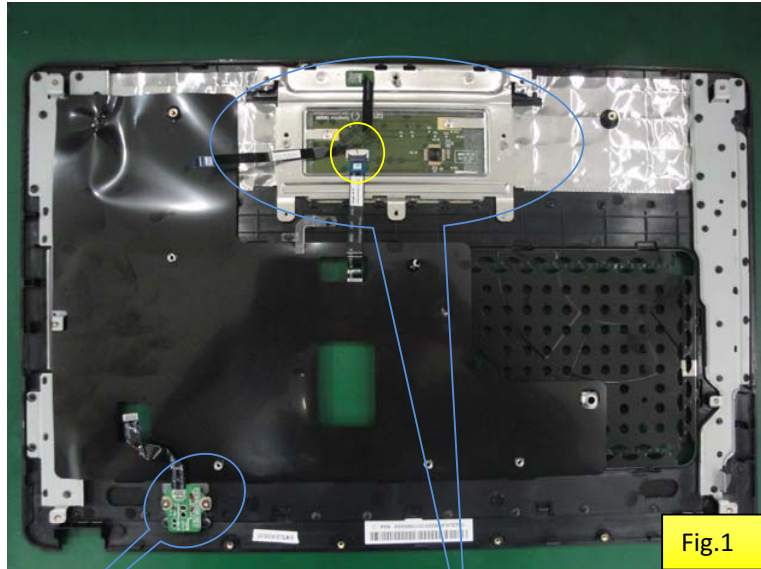

Fig.1
1. Pull out the TP cable. (Fig.1)